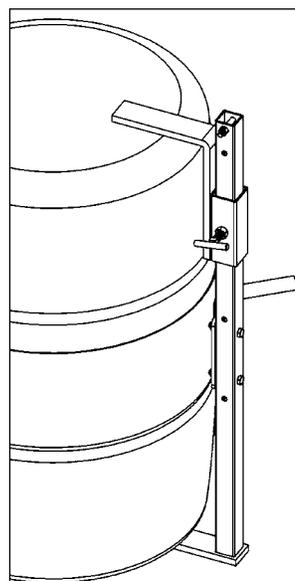

Figure 2.1
- The **Bracket Assembly** (Part # 4556SS-P) is **required** to handle a plastic drum without a top rim (see figure 2.1). It is also recommended to more securely handle a fiber drum. You can use the Bracket Assembly with a 55-gallon plastic, steel or fiber drum. The brace at top and bottom of the drum prevent it from slipping lengthways through the drum holder. It adjusts for a drum 31" to 39" tall.